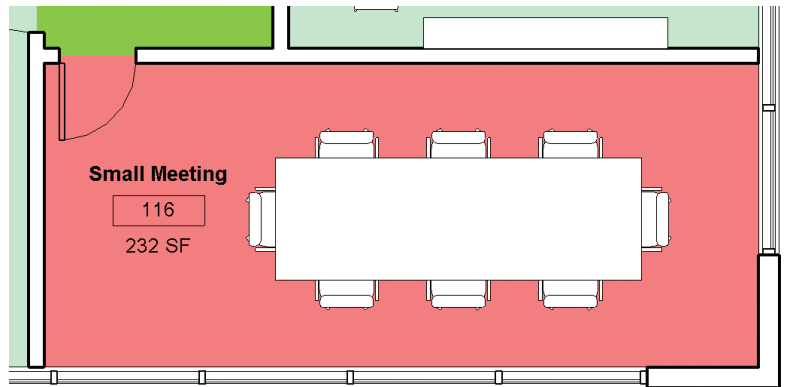

FIGURE 10.21 Adding chairs to the table
6. Place chairs around the table, as shown in Figure 10.21.